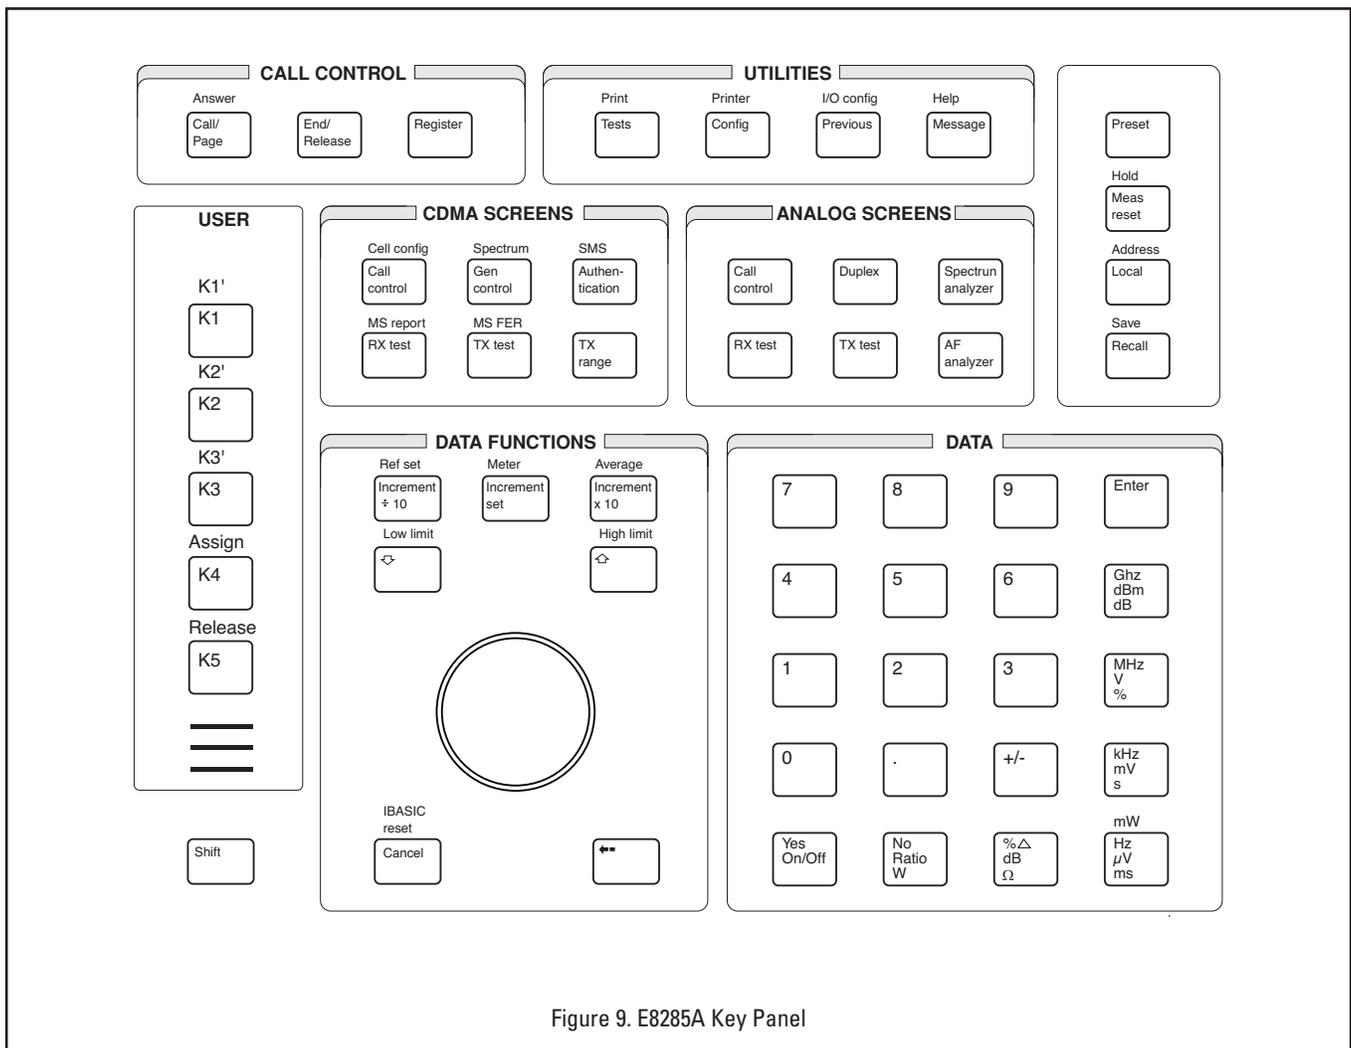

Figure 9. E8285A Key Panel
- The ANALOG SCREENS keys and the DATA FUNCTIONS keys of the E8285A have switched places relative to the 8924C (Figure 9).